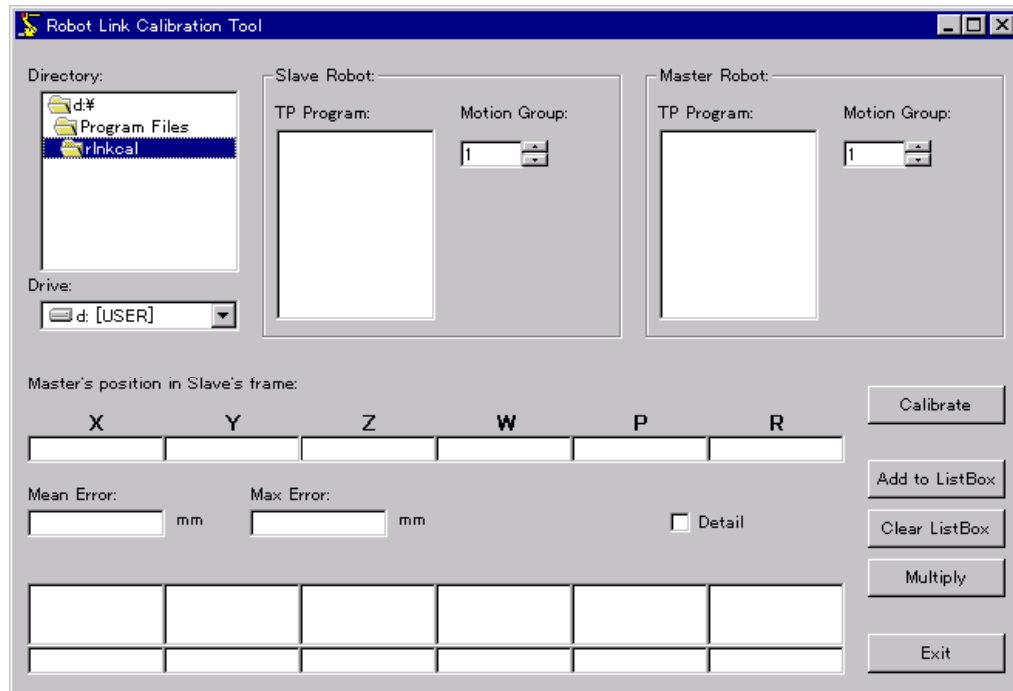

Fig. 5.3 Screen of Robot Link Calibration Tool when
4. Start the robot link calibration tool on PC. Then you can see the screen as Fig. 5.3.
2. The calibration result of S1 (temporary master) and S2 (slave) to be displayed respectively of X, Y, Z, W, P, R, Mean Err and Max Err of the screen in Fig. 5.3(a). Please click the Add to List Box button. Then, The value of X, Y, Z, W, P, R is copied onto the list box under the screen respectively. A special tool is used as it is without ending with the following Step 3.
4. The calibration result of M (master) and S1 (slave) to be displayed respectively of X, Y, Z, W, P, R, Mean Err and Max Err of the screen in Fig. 5.3(a). In addition, the calibration result of S1 (temporary master) set with Step 2 and S2 (slave) is displayed in the list box under the screen. Please click the Add to List Box button. Then, the value of X, Y, Z, W, P, R is copied onto the second line of the list box under the screen respectively. The data of the first line remains as it is.
1. Set the following data in the list box under the screen of a special tool of the personal computer (Fig. 5.3(a)) according to the same procedure as Section 5.4.2.1.